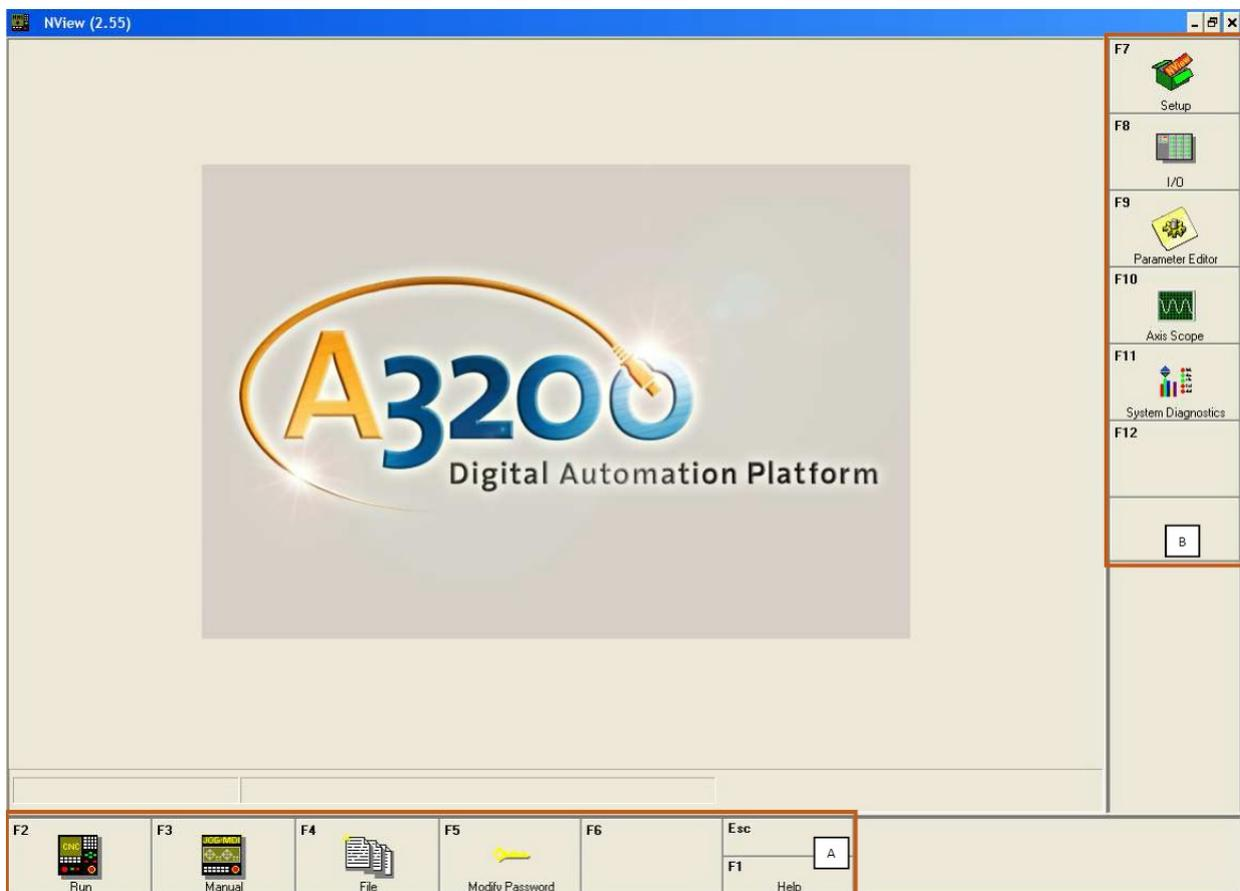

Figure 47: NView Home Page.
- Home Page (Figure 47) Used for navigation and resetting the workstation.